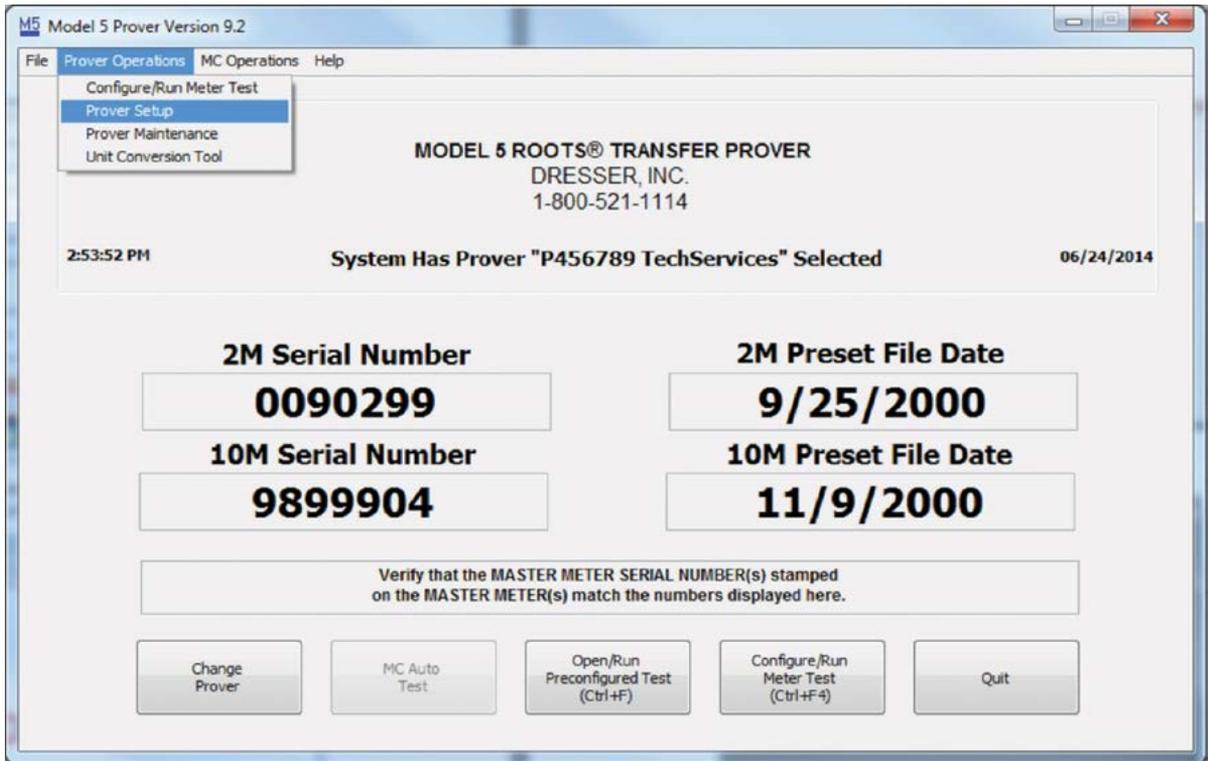

Figure 55: Prover Setup Selection
- From "Prover Operations", select "Prover Set Up" as shown in **Figure 55**.